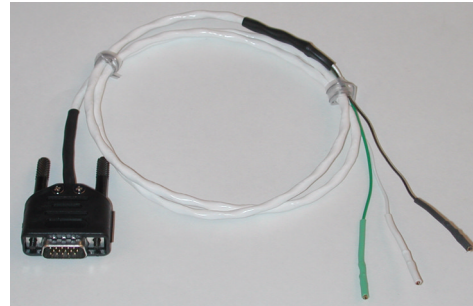

Figure NB-7-4: The C-DB15-P3 recording cable.
- Locate the C-DB15-P3 recording cable (Figure NB-7-4 on page NB-7-3) in the **NBK/214** kit. Attach the DB15 connector on the end of the cable to the DB-15 probe socket of the Model 3000 amplifier.